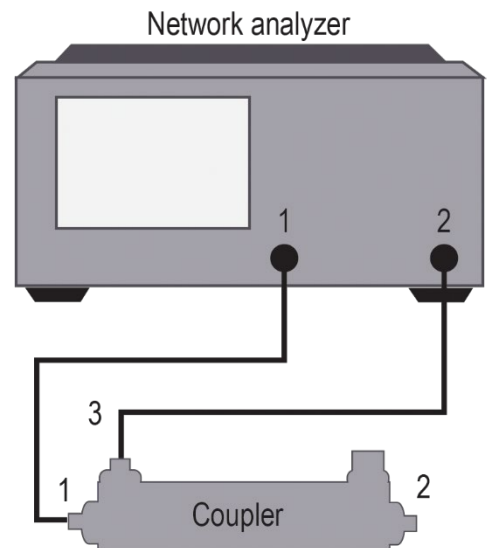

Figure 11. Equipment setup using network analyzer with coupler port 1 and port 3
5. Move test port 2 to port 3 of DUT, see Figure 11. **The unused port to be terminated with a 50 Ω termination.** Measure and record coupled port VSWR (S33) and verify the measurement is within the limits as shown in the specification.
7. With the same setup as Figure 11, **normalize S31**².